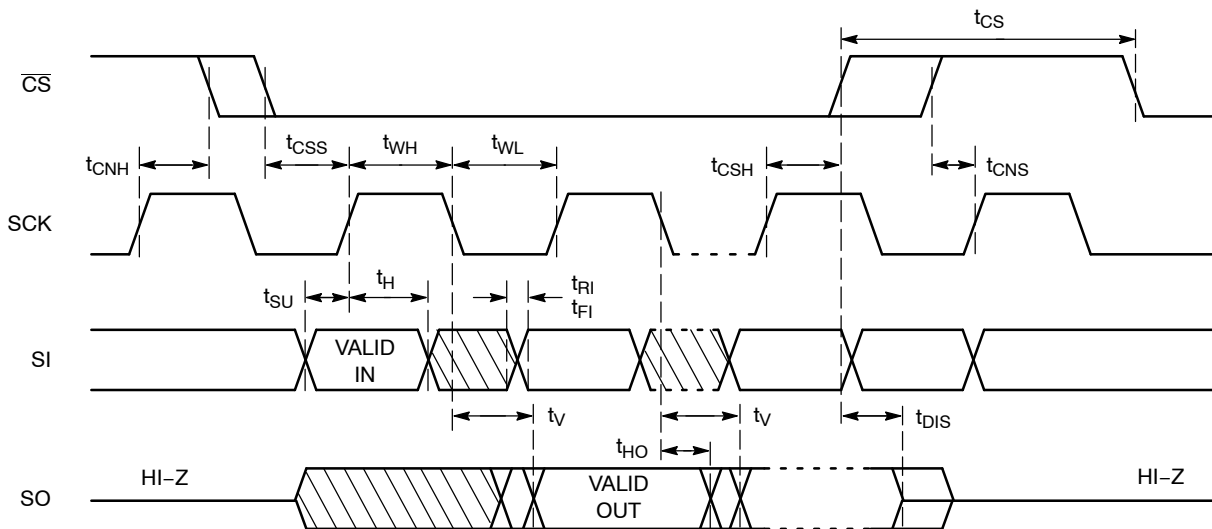

Figure 2. Synchronous Data Timing
7. **All Chip Select (CS) timing parameters are defined relative to the positive clock edge (Figure 2). t_{CSH} timing specification is valid for die revision C and higher. The die revision C is identified by letter "C" or a dedicated marking code on top of the package. For previous product revision (Rev. B) the t_{CSH} is defined relative to the negative clock edge (please refer to data sheet Doc. No. MD-1111 Rev. I)**
After a high to low transition on the \overline{CS} input pin, the CAT25320 will accept any one of the six instruction op-codes listed in Table 7 and will ignore all other possible 8-bit combinations. The communication protocol follows the timing from Figure 2.